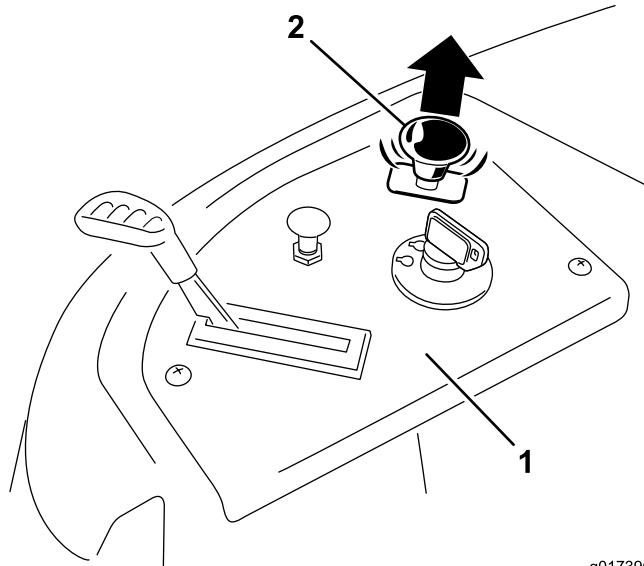

Figure 16
3. Pull up on the blade-control switch to move it to the On position, and engage the blades (Figure 16).